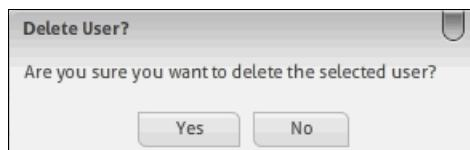

Figure 5-18 Confirmation to delete a user
3. Confirm that you want to delete the user by clicking **Yes**, as shown in Figure 5-18.